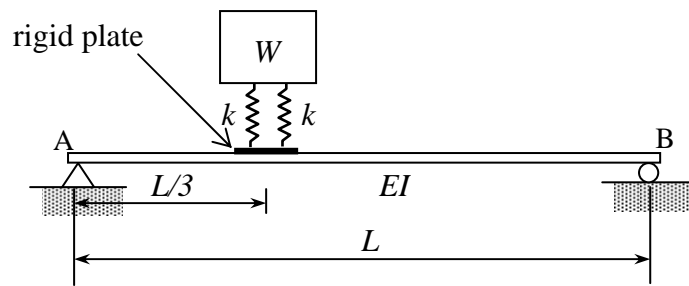

Figure 6
- b) A simply supported beam with span L and flexural rigidity EI is designed to carry a heavy machine with weight W at its mid-span as shown in Figure 6. The machine is supported by two vertical springs with spring constant k . The two springs are connected to a rigid plate which is firmly attached to the beam. The weight of the rigid plate is $0.1W$. By considering the system as shown in Figure 6 as a SDOF system, derive the expression for the equivalent stiffness of the system. Neglect the self-weight of the beam and also the springs. Given that a load P acting at a distance of $L/3$ from support A produces a deflection of $(23/27)PL^3/(48EI)$.